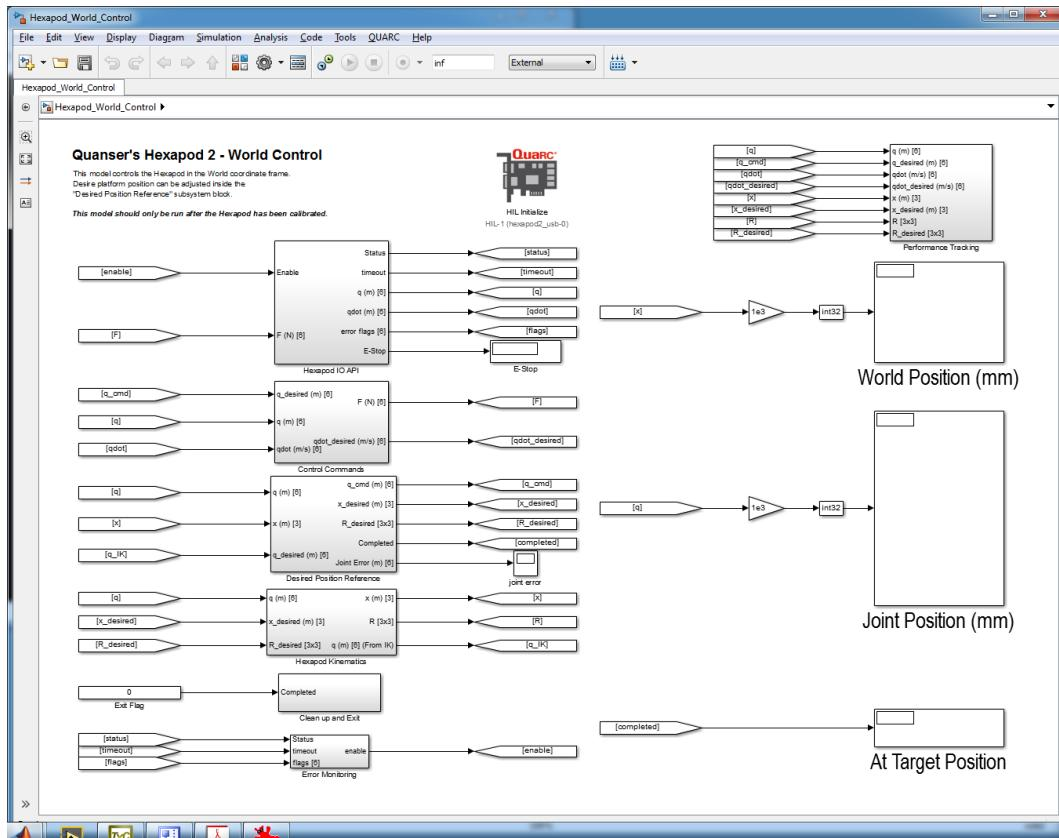

Figure 2.5: Simulink model used to command world-space positions to the 6 DOF Hexapod using QUARC.
This Hexapod_World_Control.mdl controller shown in Figure 2.5 controls the position of the upper stage, i.e., the end-effector. The amplitude and frequency of the sine or square wave can be adjusted for each of the end-effector's axes: X, Y, Z, Pitch, Roll, and Yaw.
3. Open the Simulink model called Hexapod_World_Control.mdl, shown in Figure 2.5.